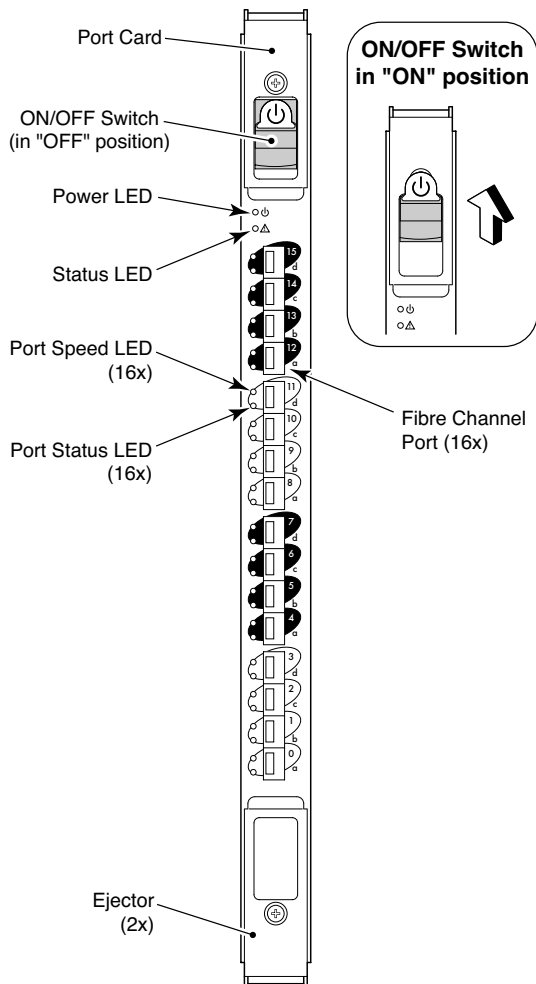

Figure 11 ON/OFF switch for a 16-port card
1. Verify that the ON/OFF switches for each 16-port card and CP card are in the ON position (see Figure 11).
NOTE: The ON/OFF switches for CP cards are identical to the ON/OFF switches on the 16-port cards (see Figure 11).
9. Check the Active CP LED on the CP cards in slots 5 and 6 (see Figure 11), or enter the `haShow` command to verify which CP card is active.